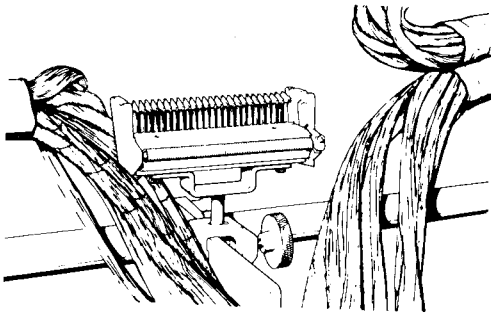

Fig. 117—Mount splicing rig.
- d. Mount splicing rig. Use one splice head on short traverse bar. See Figure 117.